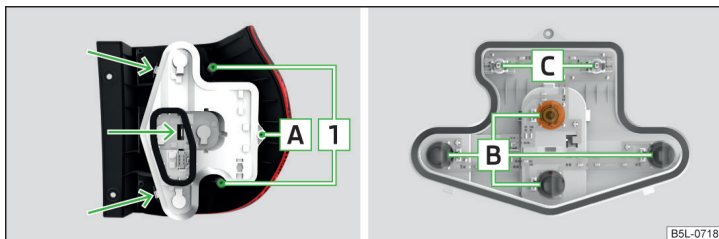
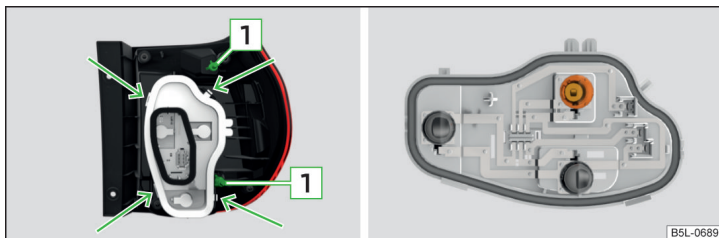

Fig. 205 Inner part of the light: Ground light
Fig. 206 Inner part of the light: Light with LED diodes
- › Carefully press the light into the body so that the bolts 1 » Fig. 205 on page 174 or » Fig. 206 on page 174 on the light engage into the mounts on the body » !.
› Fig. 205.
- › Unlock the bulb holder using the locking latches in the areas › Fig. 205 marked with arrows and remove the bulb holder from the light.
- › Unlock the bulb holder using the locking latches in the areas › Fig. 206 marked with arrows and remove the bulb holder from the light.
- › Turn the respective light bulb › Fig. 206 until it stops **counter-clockwise** and remove it from the bulb holder.